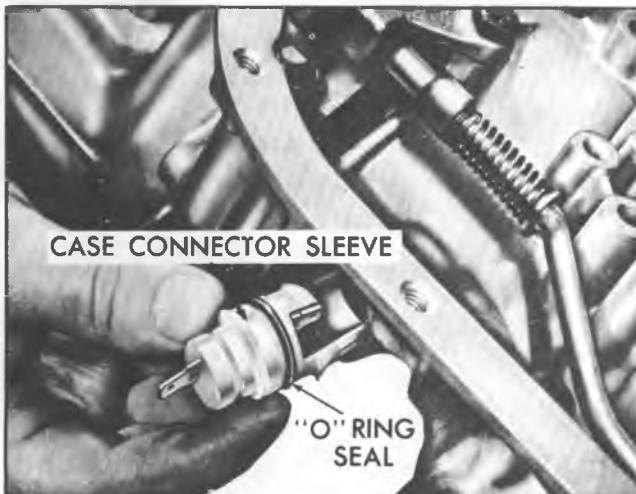

Fig. 7A-19C--Removing Electrical Connector and "O" Ring Seal
9. Remove front servo piston, retainer ring, washer, pin, spring retainer and spring from transmission case (Fig. 7A-20C).